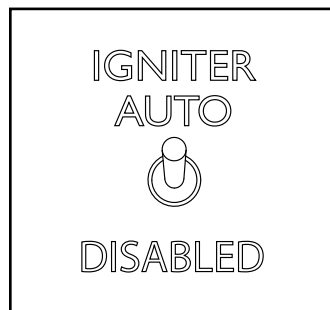
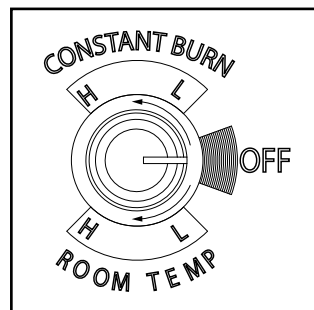

Figure 4.4
Figure 4.5
4. Flip toggle switch to desired mode “auto or Disabled”. Figure 4.4. Set Feed Limit knob to desired setting and turn mode dial to “Room Temp” or “Constant Burn” Figure 4.5.